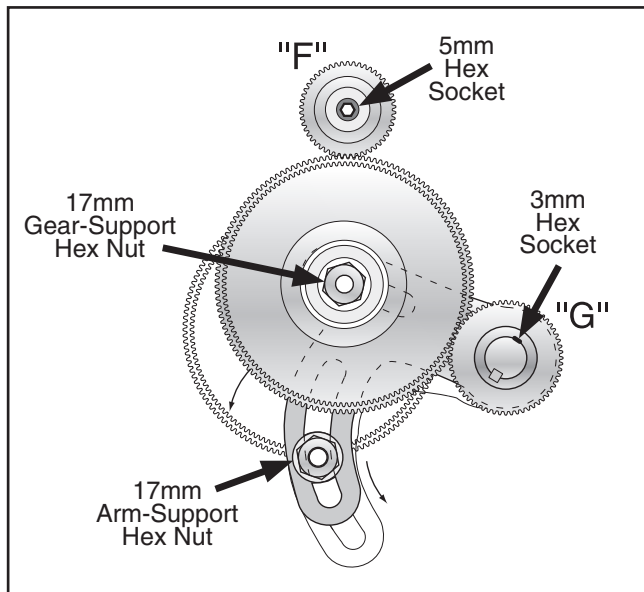

Figure 36. Change gear placement.
- Loosen the 17mm arm-support hex nut and rotate the bracket so the middle gear moves away from gear **F** (**Figure 36**).